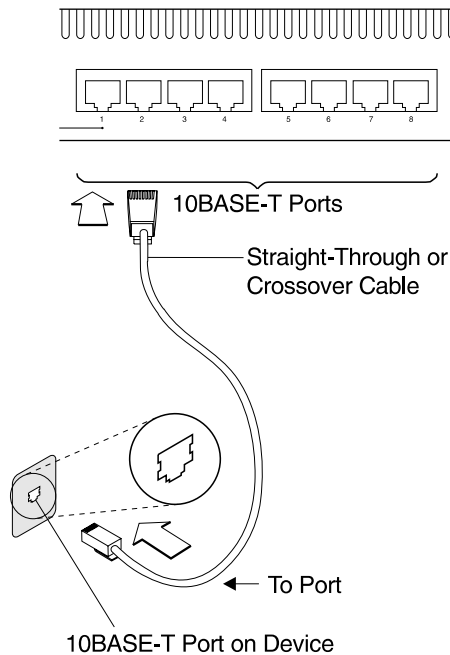

Figure 3-4. Connecting Devices to 10BASE-T Ports
- Step 1.** Using the IBM 8271 Cabling Chart provided by your network administrator as a guide, connect the cables between the 8271 and other devices as illustrated in Figure 3-4 on page 3-6. Remember that MDI-to-MDI and MDI-X-to-MDI-X connections require crossover cables and MDI-X-to-MDI connections require straight-through cables.